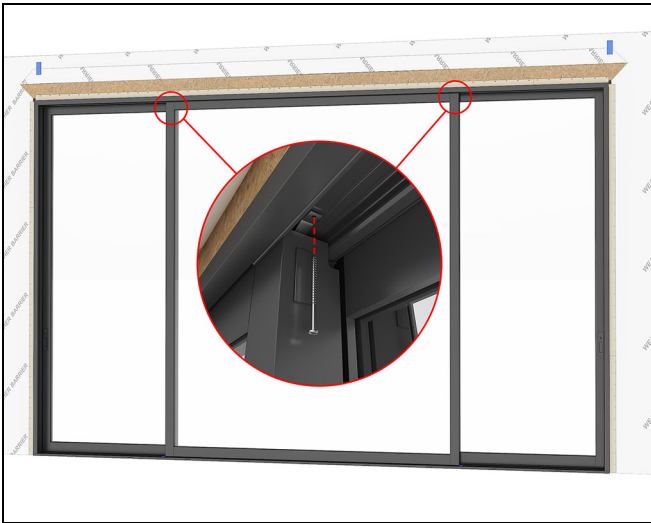

Figure 154 XOX
8. Bend the top stationary brackets of the (K) stationary panel up against the head jamb, pre-drill a 3/16" hole using the bracket as a template. Fasten through the brackets into the head jamb with #10 x 3" installation screws. Shim as needed taking care not to bow the head jamb. See Figure 154.